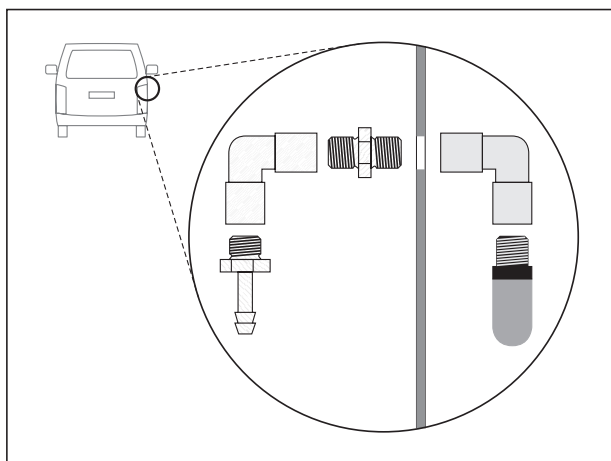

Fig. 5: Fitting the outlet for the exhaust gas hose
2. Fit the parts as shown in the diagram in fig. 5.